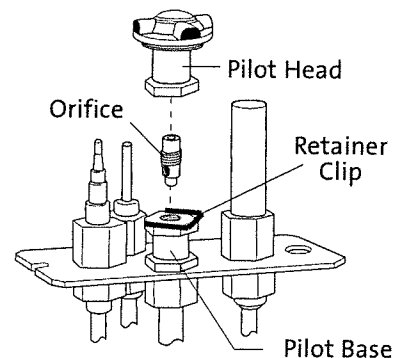

Figure 17. Pilot orifice removal and replacement.
10. **CHANGE THE PILOT ORIFICE:** From within the firebox, remove the Pilot Head by pulling it straight up from the pilot base. See fig. 17.
11. Tighten orifice into the base of the pilot assembly. To prevent bypass leaks, be sure the orifice is secured tightly and flush with the base. Replace pilot head by pushing it down onto the pilot base. See fig. 17.